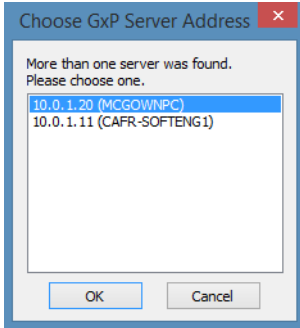

Figure 4-4: Octet® GxP Server Address Search Results
- **Choosing a remote host on same subnet**—If the Octet® GxP Server module is hosted on the same subnet, deselect the **Localhost** check box and click **Find**. A list of potential Octet® GxP Server module addresses are listed (Figure 4-4). Choose the desired location from the list and click **OK**.